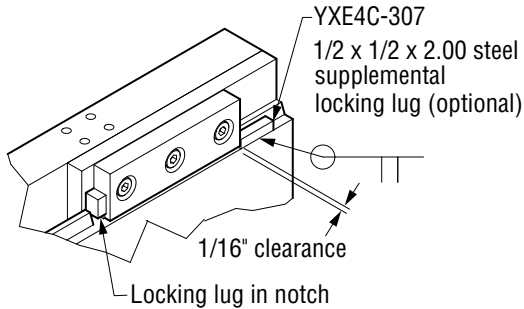

Figure 4-3, Locking Lug
6. Weld on the optional supplemental locking lug that is supplied with the attachment, (two pieces of 1/2 x 1/2 x 2.00 steel included with the attachment) with either E-6011 or E-6013 welding rod, or equivalent, on each side of the truck carriage. (Figure 4-3)